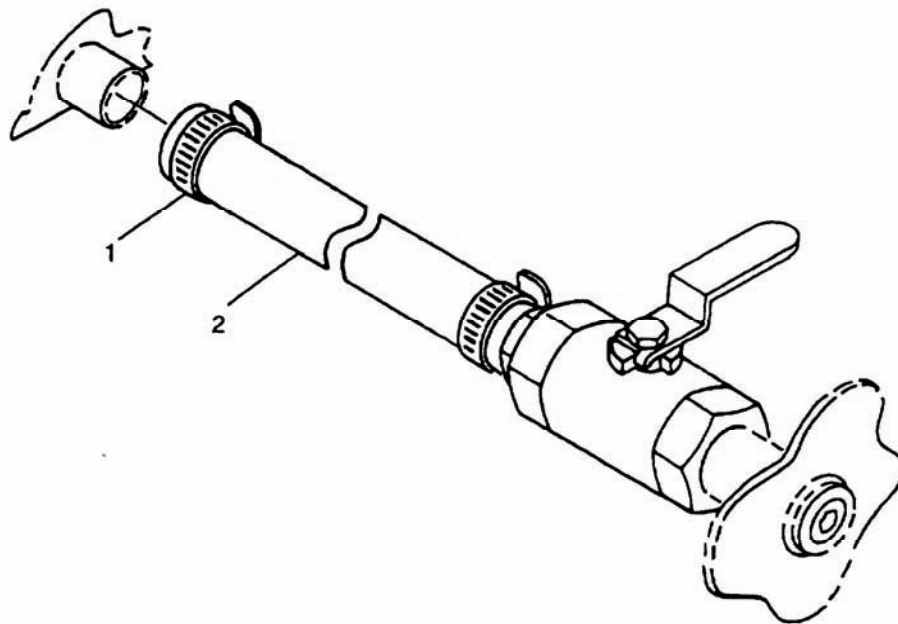

Figure 3-14. Oil Drain Line.
- aj. Loosen clamp (1, Figure 3-14) and disconnect oil drain hose (2) from engine oil pan.
- washers (15), and nuts (14).
- u. Remove caps and connect fuel line (12) to fuel transfer pump (13).
- v. Remove caps, connect hose (11), and install clamp (10) at fuel filter/water separator assembly (18).
- w. Remove caps and connect fuel line (8) to engine fuel filter (9).
- x. Connect electrical leads to fuel injection pump governor actuator (7), DEAD CRANK switch (6), magnetic pickup (5), coolant temperature sender (4), oil pressure sender (3), low oil pressure switch (2), and glow plug contactor (1). Remove tags.
- y. Connect oil drain hose (2, Figure 3-14) to engine oil pan and tighten clamp (1).